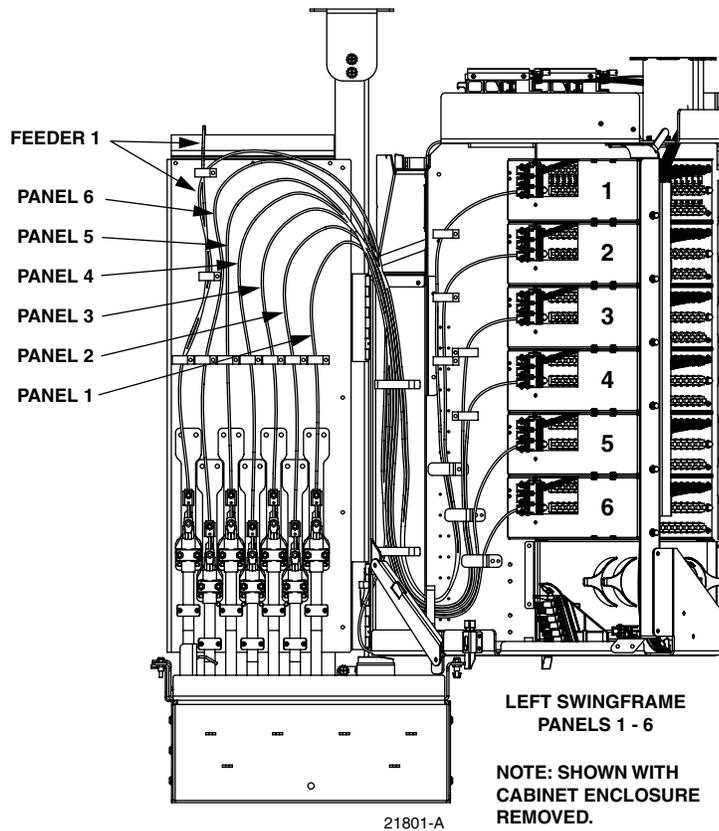
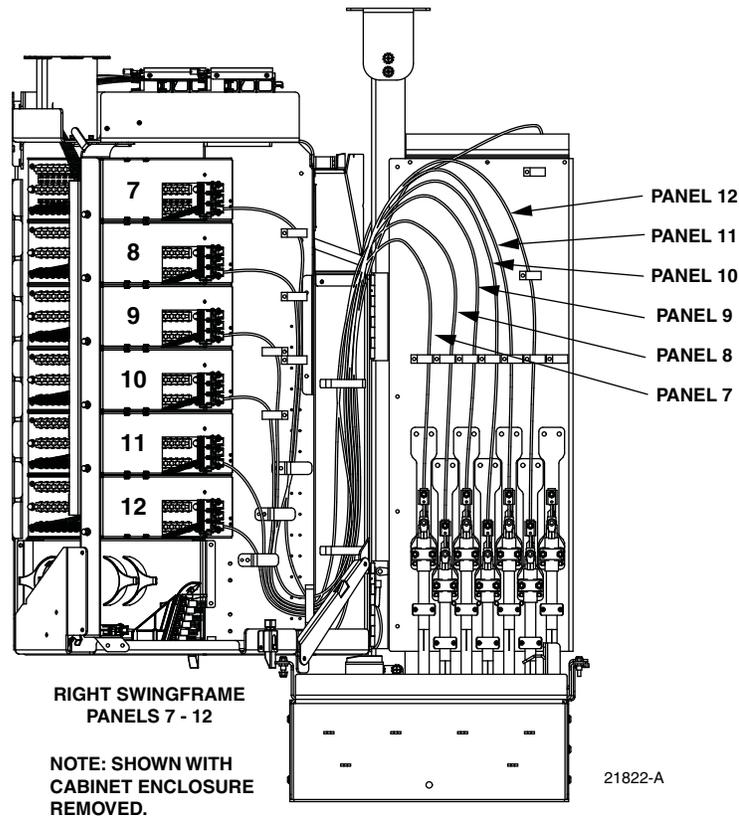

Figure 26. Route and Secure Distribution Cable Subunits - (Panels 1 – 6)
Figure 27. Route and Secure Distribution Cable Subunits - (Panels 7 – 12)
15. Route and secure the distribution cable subunit fibers within the cabinet as shown in Figure 26 and Figure 27.